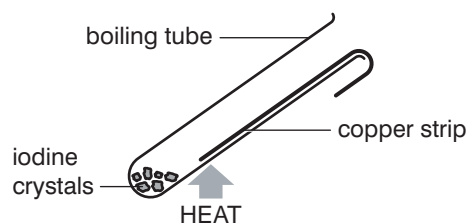

Figure 1 The reaction of copper with iodine vapour
- 3 Bend one end of the copper strip so that it fits over the lip of the boiling tube and the other end of the copper is about 2 cm above the iodine crystals (Figure 1).